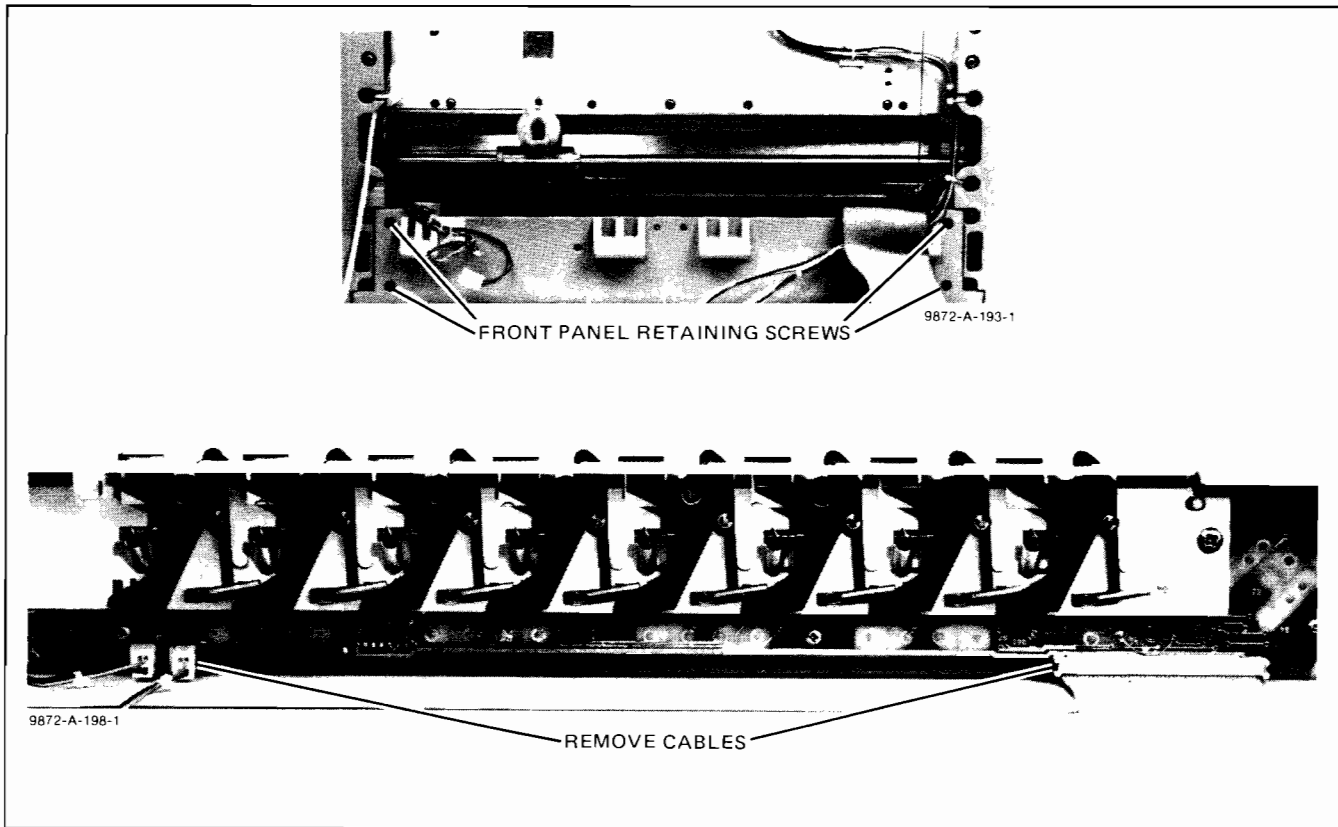

Figure 6-33. Front Panel Removal
- b. Unplug the front panel connectors, and remove the screws securing the front panel. See Figure 6-33.